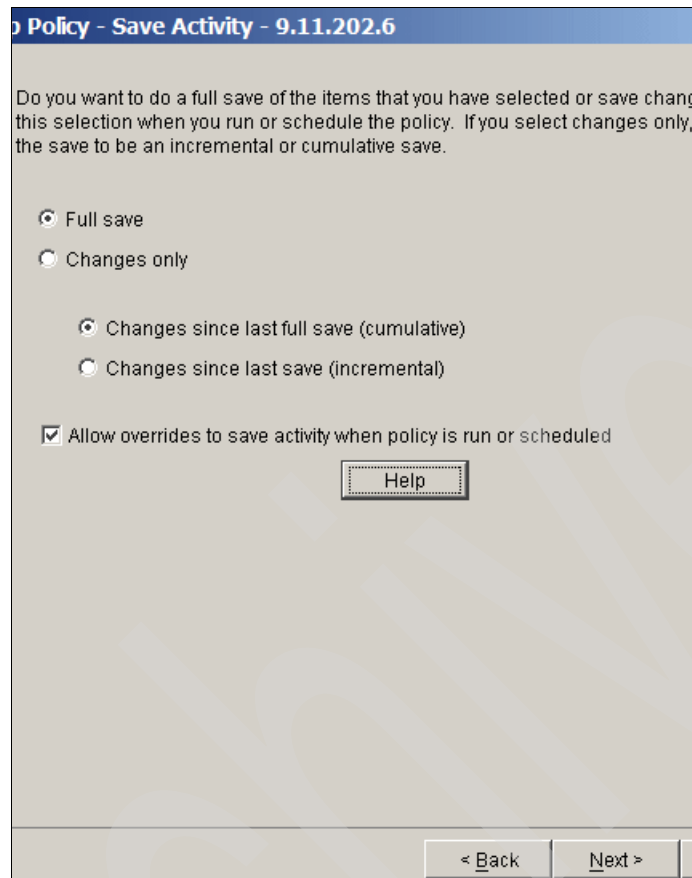

Figure 6-21 *New Backup policy wizard - type of backup*
10. Next, the *New Backup Policy* wizard prompts you to specify the type of backup. In our example, we take a full backup of the library Residency, so we select **Full** and we specify the option to override this selection every time the backup policy is run. This is shown in Figure 6-21. After selecting type of backup, click **Next**.